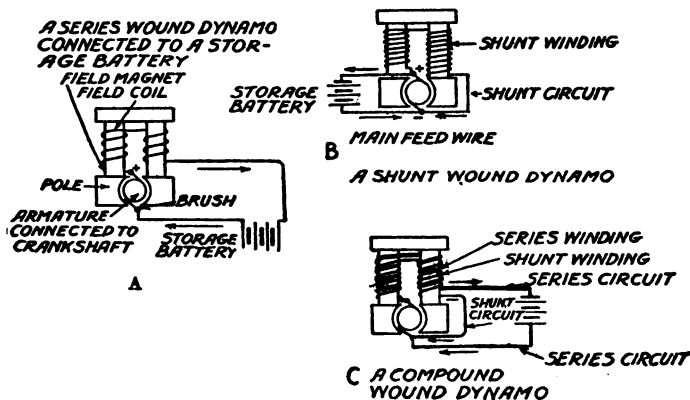

FIG. 62.—A, B and C. How dynamos are wound.
The field magnet of a dynamo can be wound in three different ways, and these are (1) *series wound*, as shown at A in Fig. 62; (2) *shunt wound* as at B, and (3) *compound wound* as at C. Now the voltage and the current